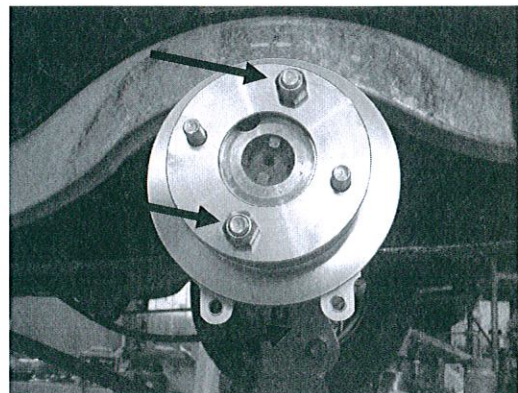

Fig. 6 - (2) lug nuts to temporarily hold rotor in place.
8. Mount rotor over hub. For temporary holding while brake is being installed, finger tighten (2) wheel nuts over hub. (See Fig.6)